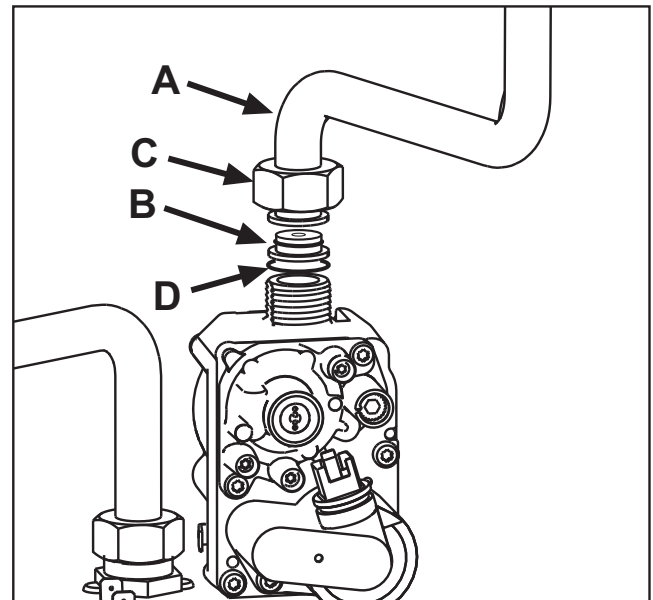

fig. 22
- Unscrew ring **C** and remove gas pipe **A** from the gas valve (see fig. 22).
- Replace nozzle **B** inserted in the gas pipe with that contained in the conversion kit, interposing seal **D** (see fig. 22).